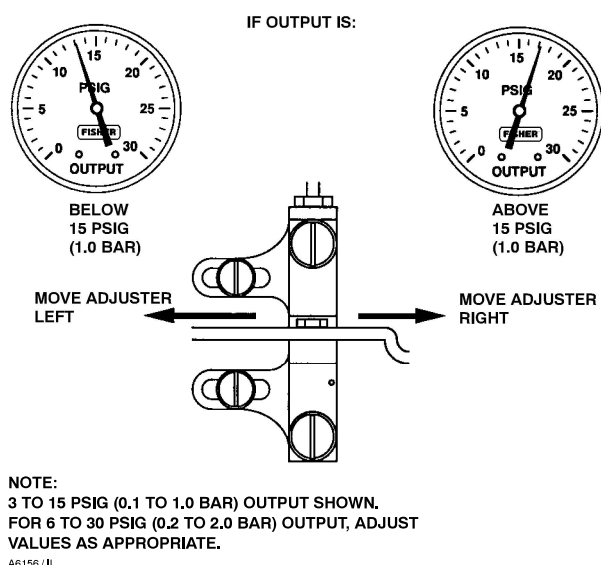

Figure 13. Transmitter Span Adjustment
8. If the output pressure is not 15 psig, adjust the span by loosening the two adjusting screws (key 43) and moving the calibration adjuster (key 41) a small distance as indicated in figure 13.